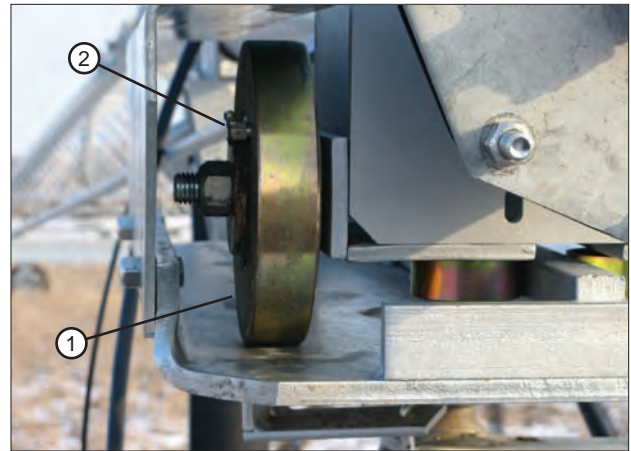

Figure 31-2
3. Lubricate the grease fitting on each track roller. See figure 31-2.